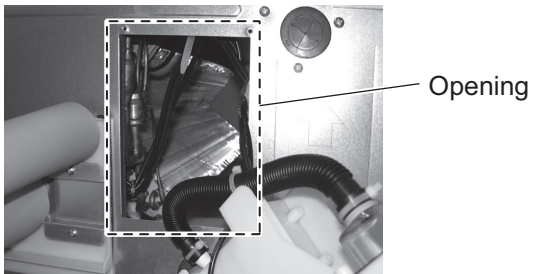
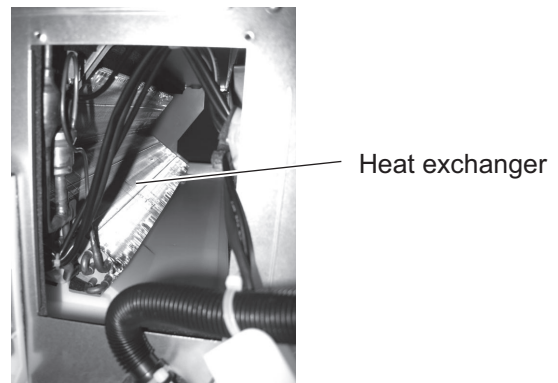

Fig. 5-2a
Fig. 5-2b
4. Insert a high pressure cleaner from the opening (Fig. 5-2a) and clean the heat exchanger. (Fig. 5-2b)